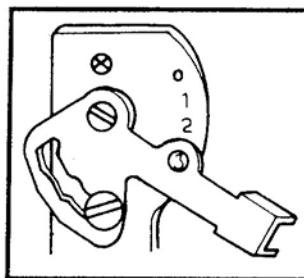

Fig. 2
1. Move the lever up or down for the desired pressure. For light fabrics set lever at 1, set at 2 for medium fabrics and 3 for heavy fabrics. (See fig. 2.)